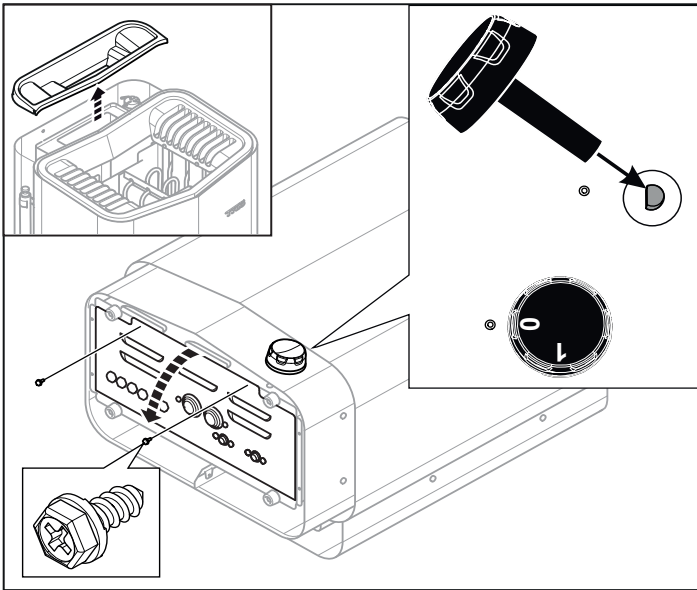

Figure 9: Opening/closing the cover
2. Remove the cover to the water reservoir and lay the heater down with the front facing upwards. Install the knob (see Figure 9).
3. Undo the screws and open the cover (see Figure 9).
8. Close the cover and tighten the screws (see Figure 9).